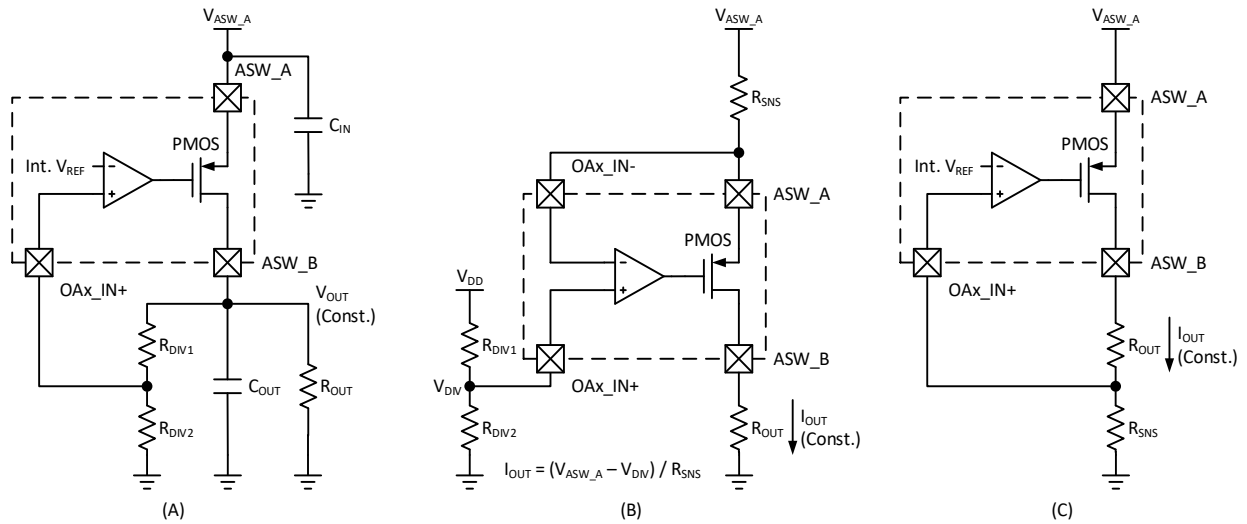

Figure 71. Typical Implementation of Voltage Regulator (A) and Current Sources (B and C)
In this mode, the OpAmp output is used to drive gate voltage for the PMOS of the analog switch. The OpAmp switch control mode is enabled by setting the ASW_MODE bit to ‘1’. When the OpAmp switch mode is disabled ($ASW_MODE = 0$), the output of OpAmp0 ($OA0_OUT$) is disconnected from the gate of the PMOS. Figure 71 \(A\) shows a typical implementation of the voltage source function. Optionally, this mode can be used to implement a constant current-source with load connected to ground as shown in Figure 71 \(B\) and (C).